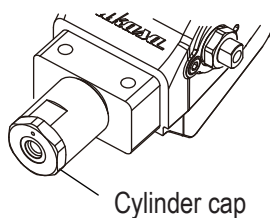

Fig. 2
- b. Remove the hydraulic oil from the cylinder cap. (Fig.2)